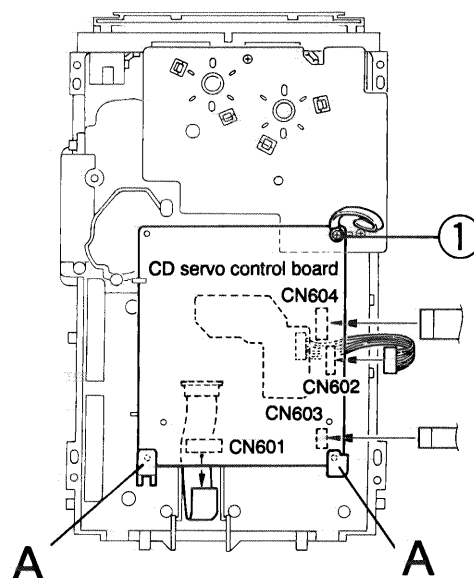

Fig.5-35
■ Removing the CD Servo control board (See Fig. 5-35).
3. From bottom side the CD Traverse mechanism assembly, remove the screw ① retaining the CD Servo control board.